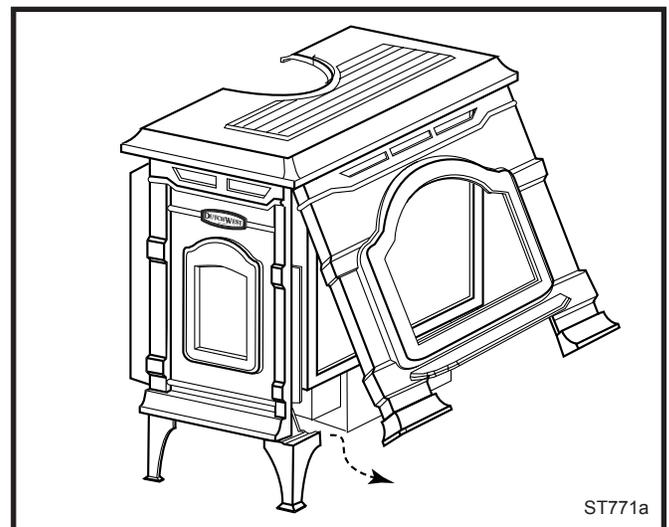

Fig. 36 Remove the Stove Front.
1. Remove stove front. Lift stove front up and then swing bottom out and away to disengage from the stove body. (Page 19, Fig. 36)
2. Lift the Stove Front up and then swing the bottom out to disengage it from the heater shell. (Fig. 36)
1. Remove the Front, Glass Frame and Glass Panel. (Figs. 36, 37) Remove the old gasket. Use a razor blade, with rounded corners, to separate the glass and gasket from the frame, and to clean the glass of any remaining cement or bits of gasket.